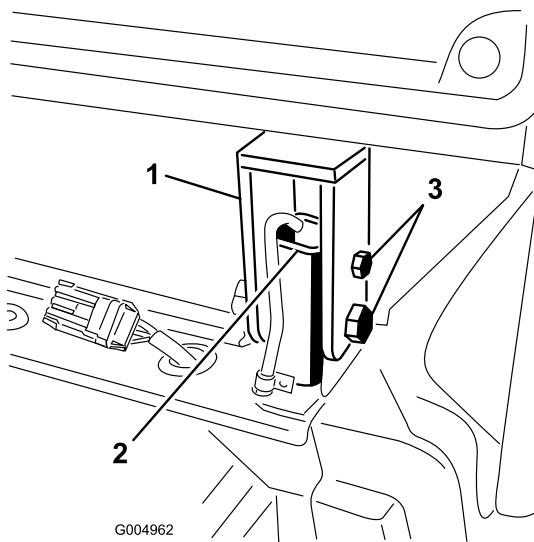

Figure 26
12. Tighten the bolts and nuts securing the rear cab mounts to the ROPS posts (Figure 26). Adjust the floor jack if the bolts are binding and difficult to remove.